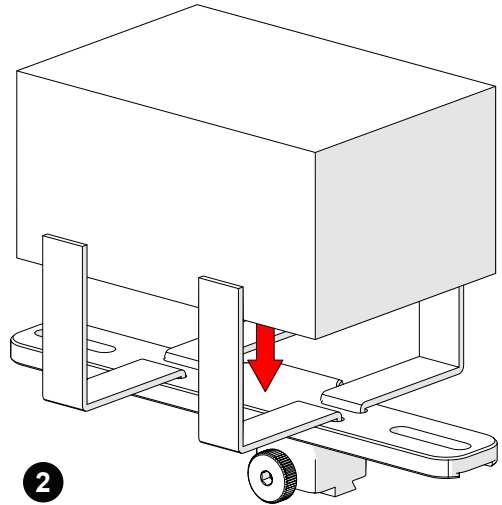

Fig. 151 - Place preamp and wrap velcro
2. Centre and place the preamp on the bracket wrapping the velcro around the preamp (*Fig. 151*).